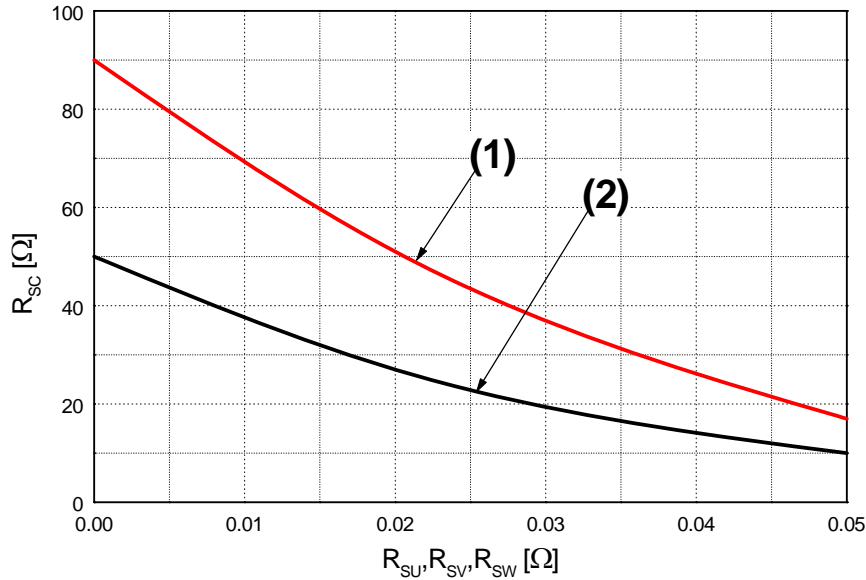

Figure 6. R_{sc} Variation by Change of Shunt Resistors (R_{SU} , R_{SV} , R_{SW}) for Short-Circuit Protection
- Short-circuit protection is functioning only at the low-sides. It would be recommended that the value of the external sensing resistor (R_{SC}) should be selected around 50 Ω in order to make the SC trip-level of about 45A. at the shunt resistors (R_{SU}, R_{SV}, R_{SW}) of 0 Ω. For the detailed information about the relationship between the external sensing resistor (R_{SC}) and the shunt resistors (R_{SU}, R_{SV}, R_{SW}), please see Figure 6.